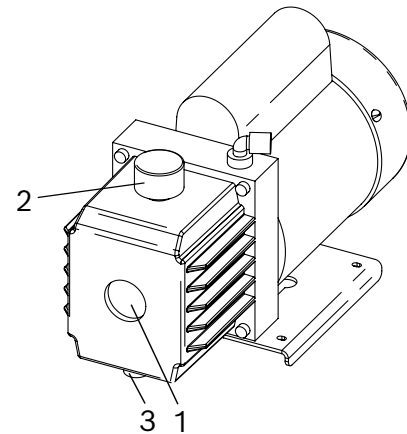

Figure 1-6. Oil Ports
8. Slowly open the oil fill port cover (2) to verify there is no pressure in the machine. Then carefully remove the cover. See Figure 1-6.
9. Remove the oil drain fitting cap (3) and drain the oil into a suitable container for disposal. Reinstall the oil drain cap (3) and close tightly.
10. Slowly add vacuum pump oil to the pump through the oil fill port until the oil reaches the center of the sight glass (1).
11. Reinstall the oil fill port cover (2) and close tightly.